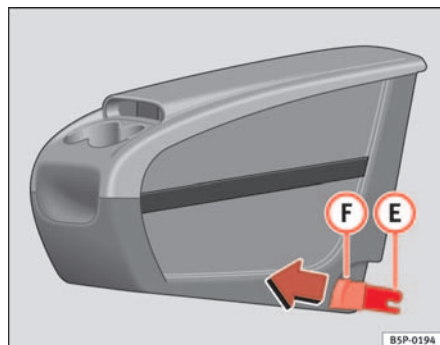
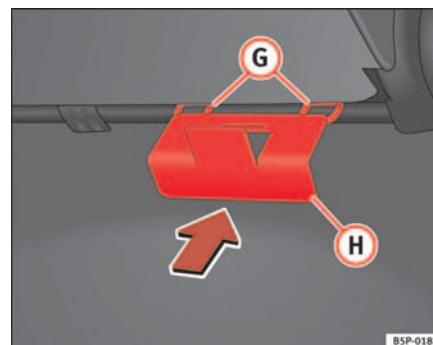

Fig. 109 Mobile stowage compartment Installation
Fig. 110 Mobile stowage compartment mounting plate
- Fit the mobile stowage compartment mounting plate **H** ⇒ fig. 110 from the inside of the vehicle, through the rear section of the seat. It should be fitted between the back rest and the seat, in the central seat area.
- Set both mounting pieces together (E) ⇒ page 139, fig. 109, with both mounting rings (G) ⇒ page 139, fig. 110 and press hard until both the clips completely connect with the rings.
- Pull each of the buttons ⇒ page 139, fig. 109 (F) on the clips (red buttons) forwards, until they snap out of place.